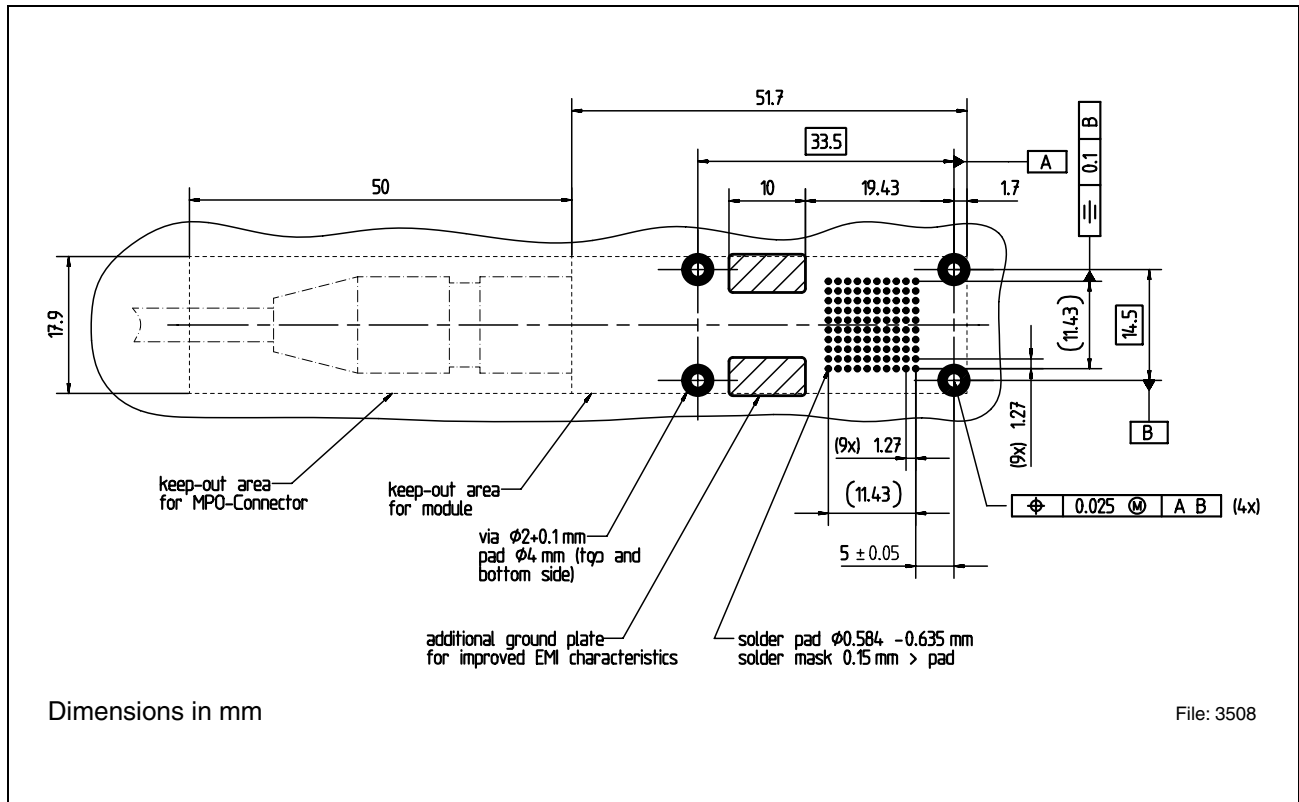

Figure 17 PCB Layout
- Figure 17** describes the recommended customer board layout for the PAROLI 2 modules.
- The dashed lines in **Figure 17** indicate the typical keep out area for straight MPO connectors as well as for the module MPO receptacle in case of central board placement of the module.